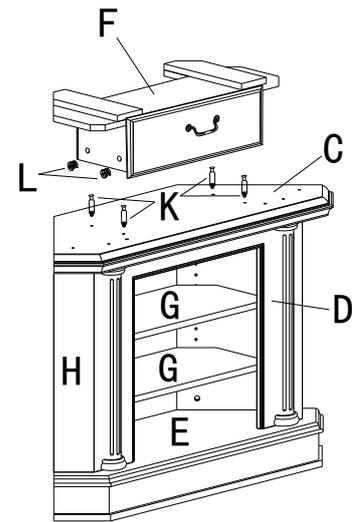

Figure 6
6. Put 4 Cam Dowels (K) onto Middle Clapboard (C), and lay Drawer Assembly (F) on Middle Clapboard (C), then put 4 Cam Locks(L) on Drawer Assembly (F) and fix them with a manual screwdriver. (Figure 6)